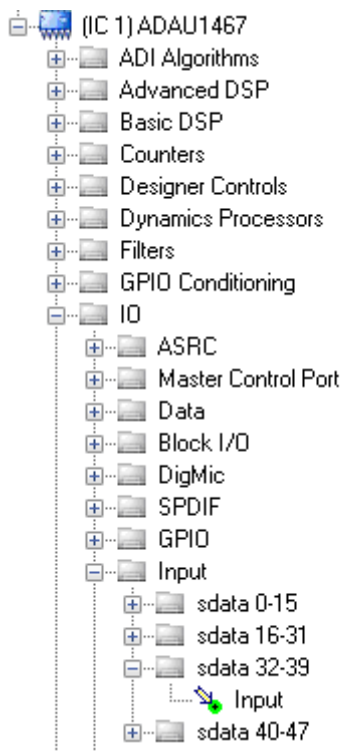
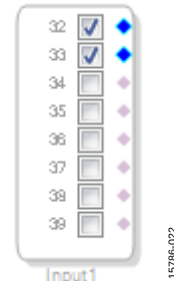

Figure 21. **Input** Block Selection
Figure 22. **Input** Block
- a. To add an **Input** block, from the (IC1) ADAU1467 > **IO** > **Input** > **sdata 32-39** folder, click **Input** (see Figure 21) and drag it into the project space to the right of the toolbox (see Figure 22). By default, Channel 0 and Channel 1 are selected. This configuration matches the analog audio source hardware connections shown in Figure 12 and Figure 13; therefore, no modifications are required.